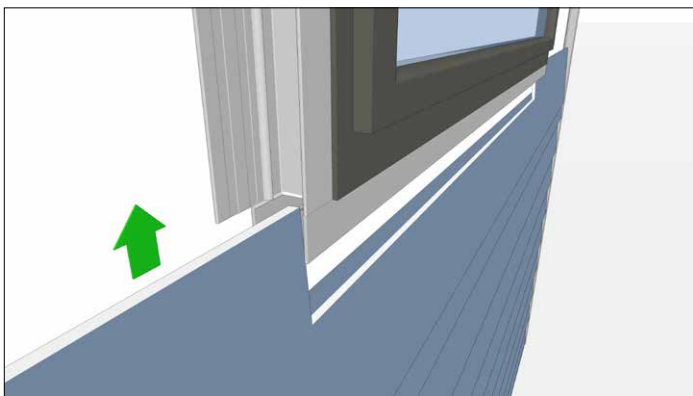

Figure 24.2
2. Install EZ.40 J trim along the jamb so that the bottom butts up to the sill J trim and aligns with the notch previously cut in the sill trim. Then cut and install a lap plank to fit into the sill and jamb trims. (Figure 24.2).